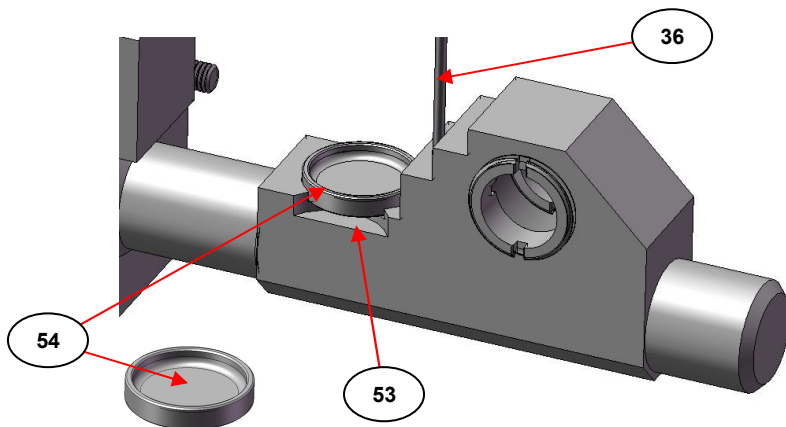

Fig 28. Heater Block Assembly (10) Decomposition Sample Position (53) with Sample Cup (54) in Place
The heater block assembly (10) is placed into the HTHP Cell body (3) at the end opposite to the water fittings (4) fixed to the upper (1) and lower (2) water cooling plates. A decomposition sample cup (54) is inserted into its location recess (53) on the heater block assembly (10). (See Fig 28.) (Cup (54) also shown in recess (53) position.)